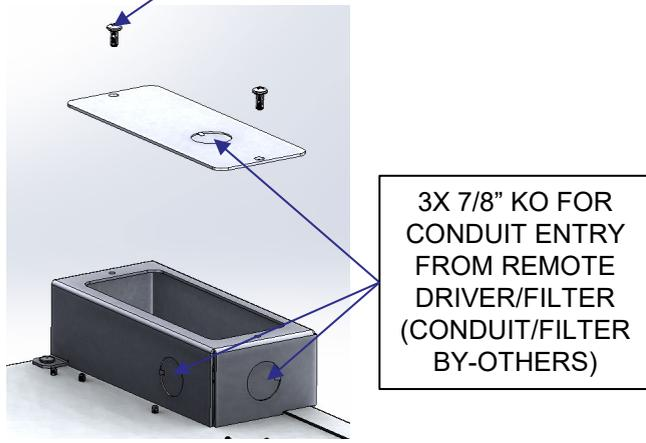

FIGURE 2
3. Remove 2X 8-32 fasteners to gain access to fixture wiring (see Figure 2). Fixture wiring is color coded to match terminal block label present in driver box. Ensure cover is re-installed following termination of conduit/connections. Max recommended remote mount distance is 25 feet (7.62 meters), 20ga min. (Conduit/Fittings/Remote wiring provided by-others)